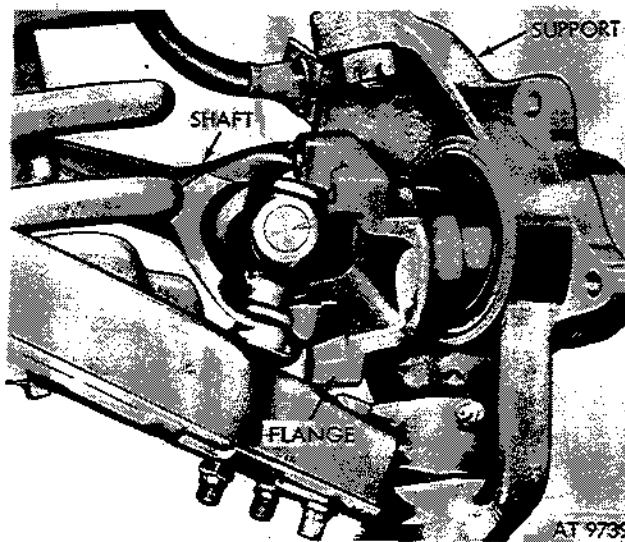

Figure 2-313. Position shaft to permit removal of wheel drive flange from support.
- (3) Position wheel drive shaft aside and pull wheel drive flange from support (fig. 2-313).